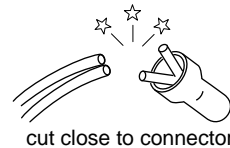

Fig.3
Turn the loading motor pulley in the direction as indicated by Fig.2. As both (A) and (B) levers are lodged twice, push the levers in the direction as indicated by Fig.3 to release them. When pushing the levers, do it in the order of (A), (B), (B), (A). When the holder has been lowered, turn the pulley until the cassette holder is securely in place without allowing any up/down movement.